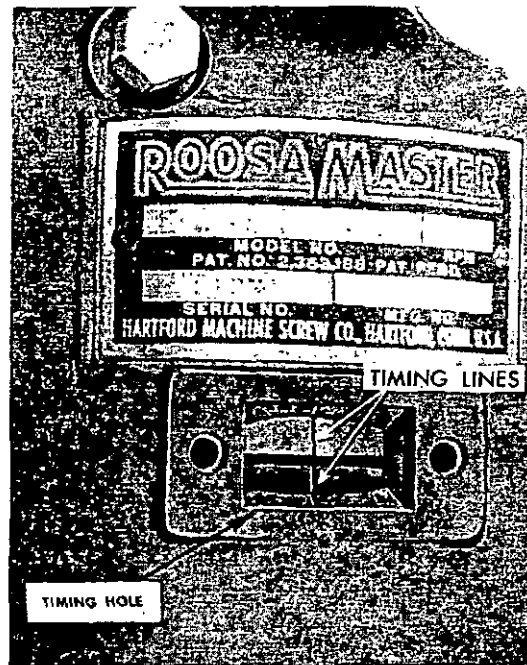

Figure 118 — Roosa-Master Pump Timing
2. Remove timing hole cover in pump housing and check if the timing line on the drive plate lines up with the timing line on the cam ring. Fig. 118.